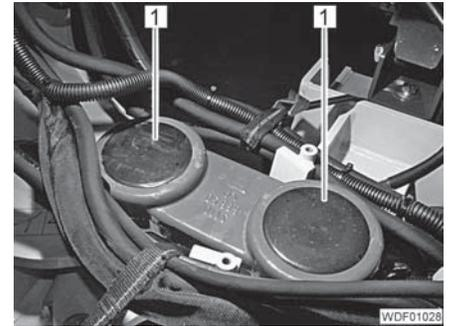

Fig. 296 Protective caps
- Press 1 protective cap (Fig. 296,1) into each hole.